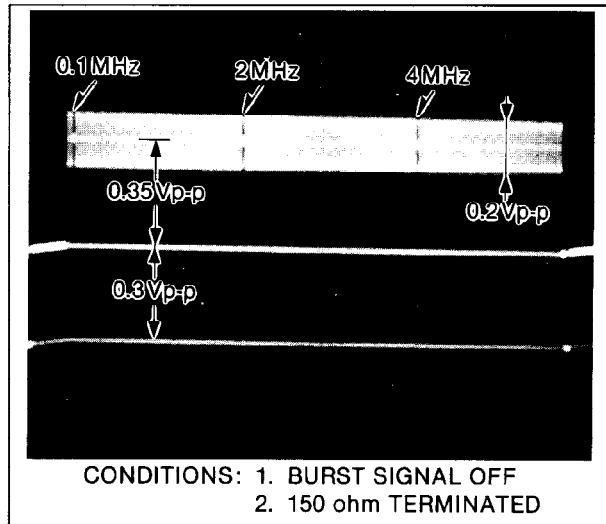

Fig. E9
1. Set the output of video sweep generator as shown in Fig.E9.